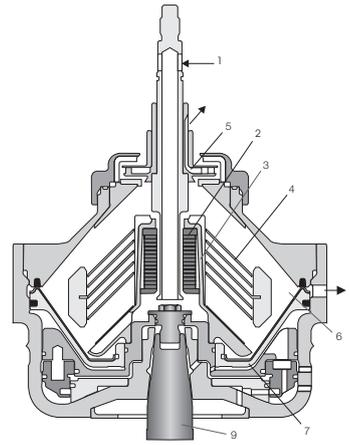

Fig. 1. Typical bowl drawing for solids-ejecting separator. Drawing details do not necessarily correspond to the centrifuge described.
The feed is introduced to the rotating centrifuge bowl (fig 1) from the top via a stationary inlet pipe (1), and is accelerated by the disc inlet (2) in a distributor (3) before entering the disc stack (4). Separation of solids particles takes place in between the conical discs. The liquid phase moves towards the centre of the bowl from where it is pumped out under pressure by means of a built-in paring disc type centripetal pump (5). The heavier solids phase is collected at the bowl periphery (6) from where it is discharged intermittently in the sediment space and decelerated in the cyclone. The solids discharge is achieved by a hydraulic system below the separation space in the bowl, which at certain intervals forces the sliding bowl bottom (7) to drop down, thus opening the solids ports (8) at the bowl periphery. The bowl is mounted on a vertical spindle (9) driven by a vertically mounted motor, via a belt drive.